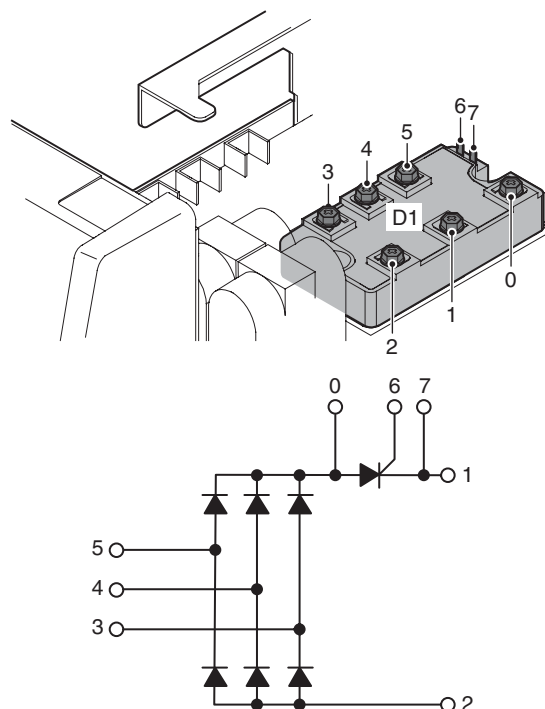

Figure 11-14: Tester checkpoints for D1 showing the interconnection diagrams
- 2) Refer to Table 11-5 and Figure 11-14 for the checkpoints on D1.